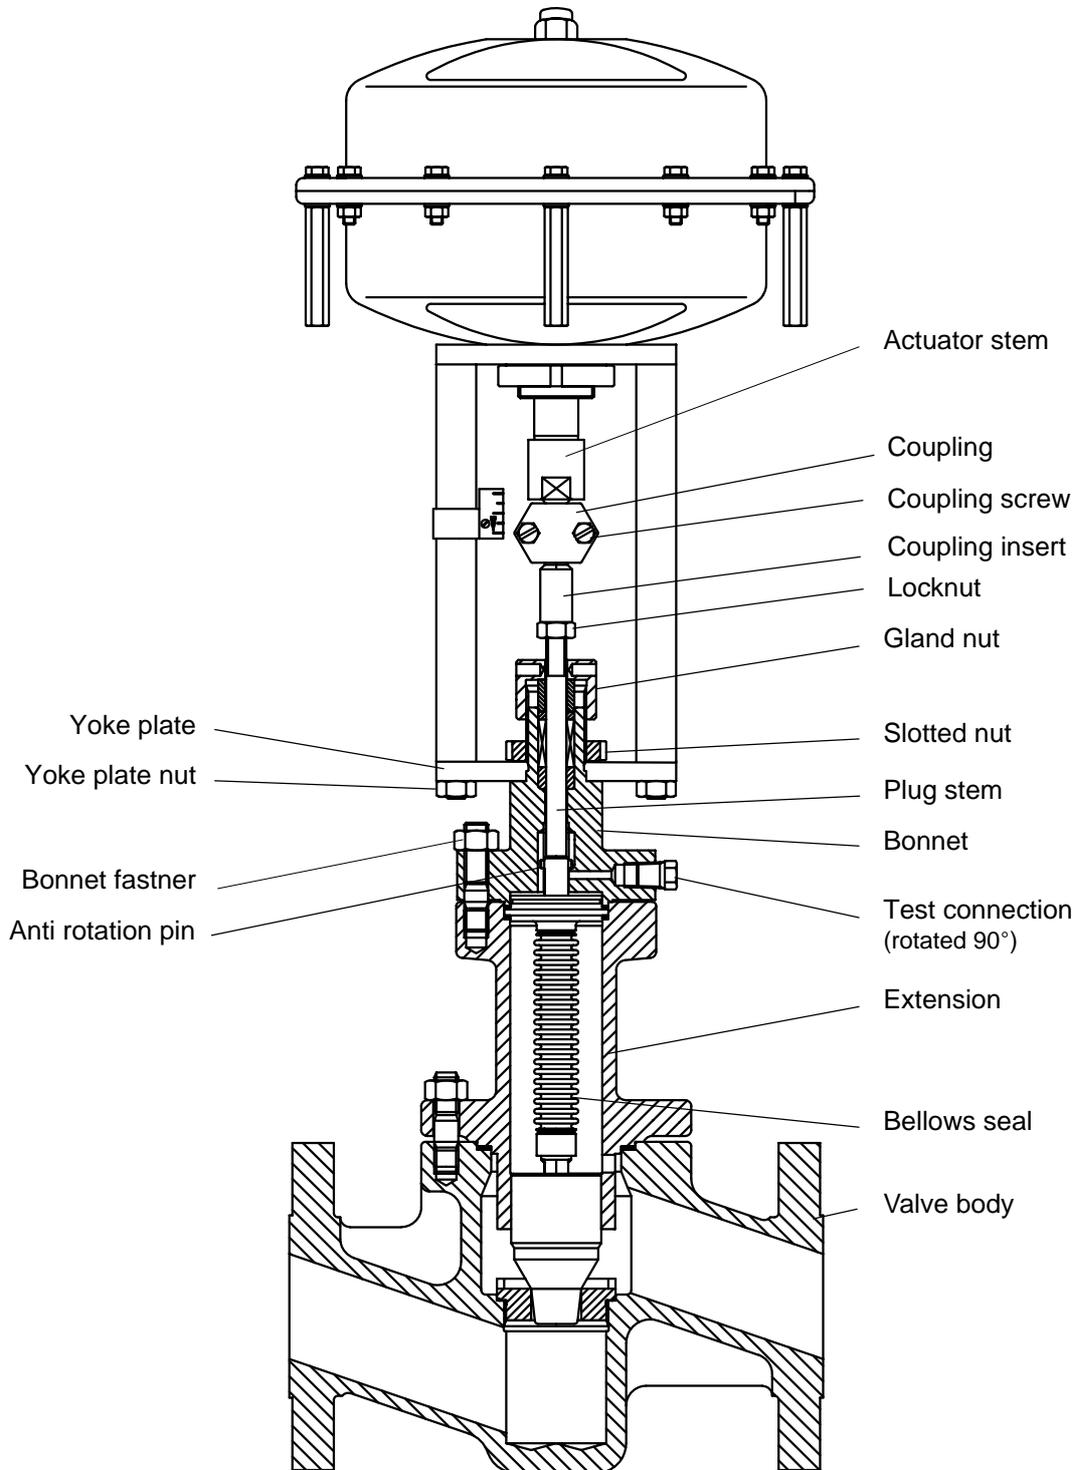

Fig. 1
- 2.1 Examine gaskets for leaks and if necessary re-tighten bolts (see Fig. 1).
(see Fig. 1)